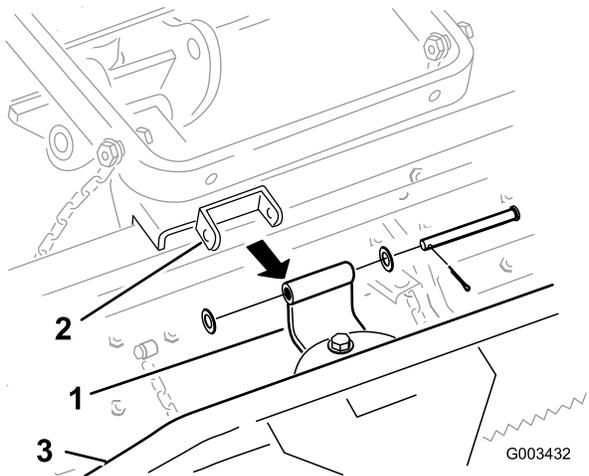

Figure 12
B. Remove the cotter pin, washers, and clevis pin securing the curved pivot bracket to the tooth rake (Figure 12).
- C. Remove the curved pivot bracket and fasteners from the spring rake (Figure 12).